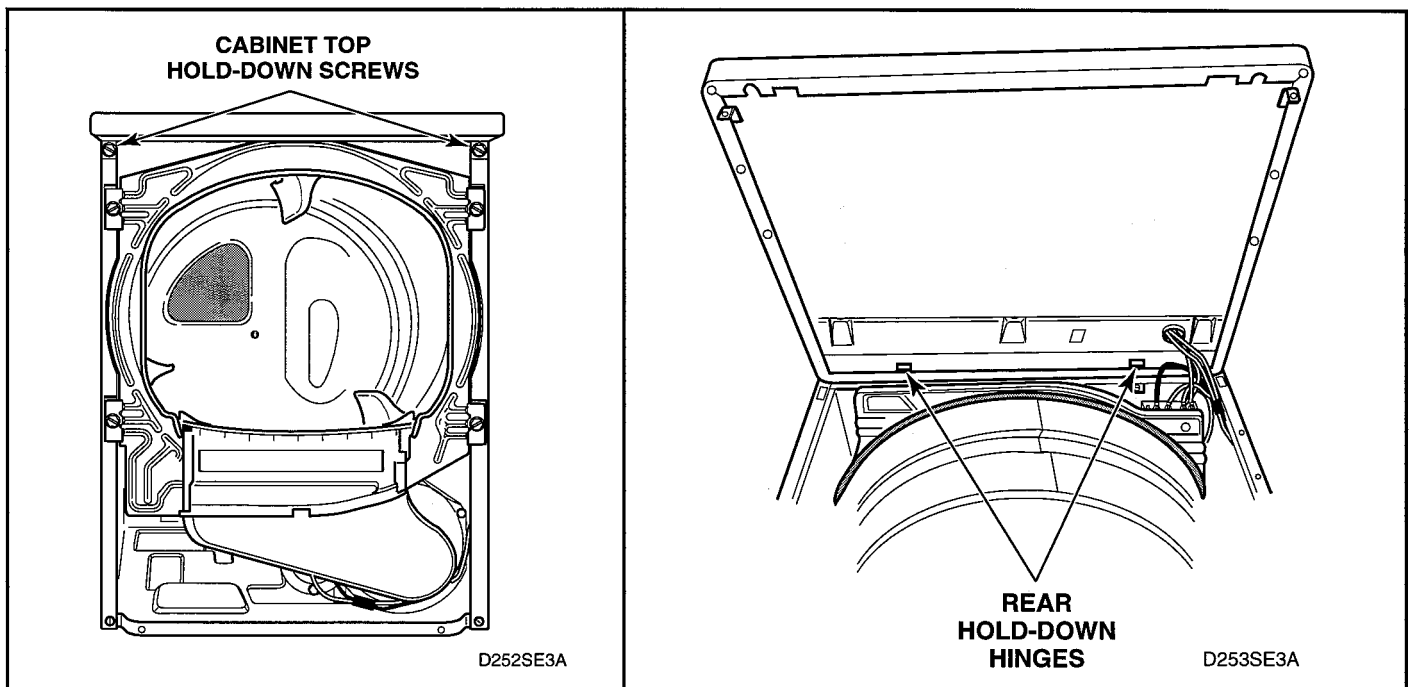

Figure 5-20
- Remove two cabinet top hold-down screws. See figure 5-20.
- Lift cabinet top to a vertical position by hinging it on the rear top hinges. See figure 5-20.
- Carefully withdraw wire harness through hole in cabinet top and lift the top off the top hinges. See figure 5-20.